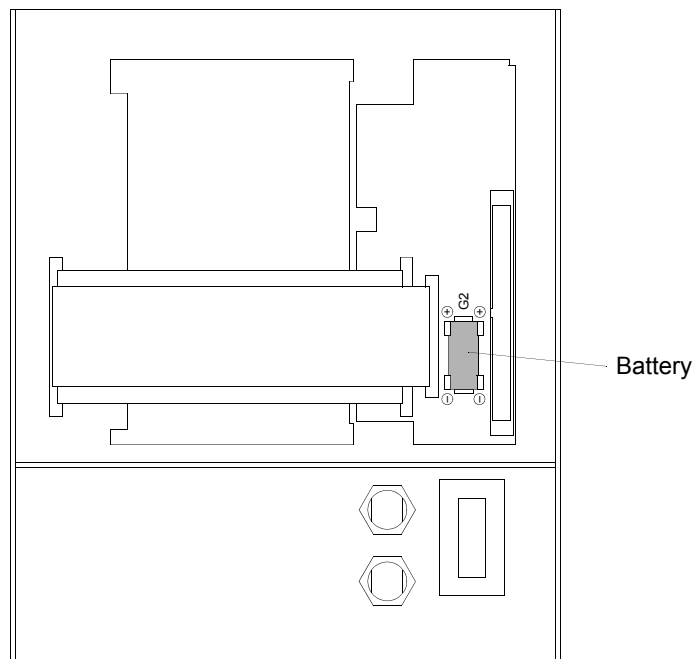

Fig. 8-2 Rear view of the front panel, enclosure size  $1\frac{1}{2}$  with inserted battery
- Press the new battery firmly into the snap-in fastener as shown in Fig. 8-2.